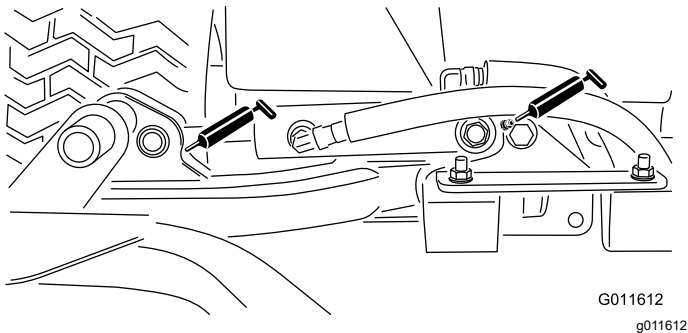

Figure 42
- Cutting unit lift-arm cylinders (2 each)—Figure 42
- Lift-arm pivots (1 each)—Figure 42